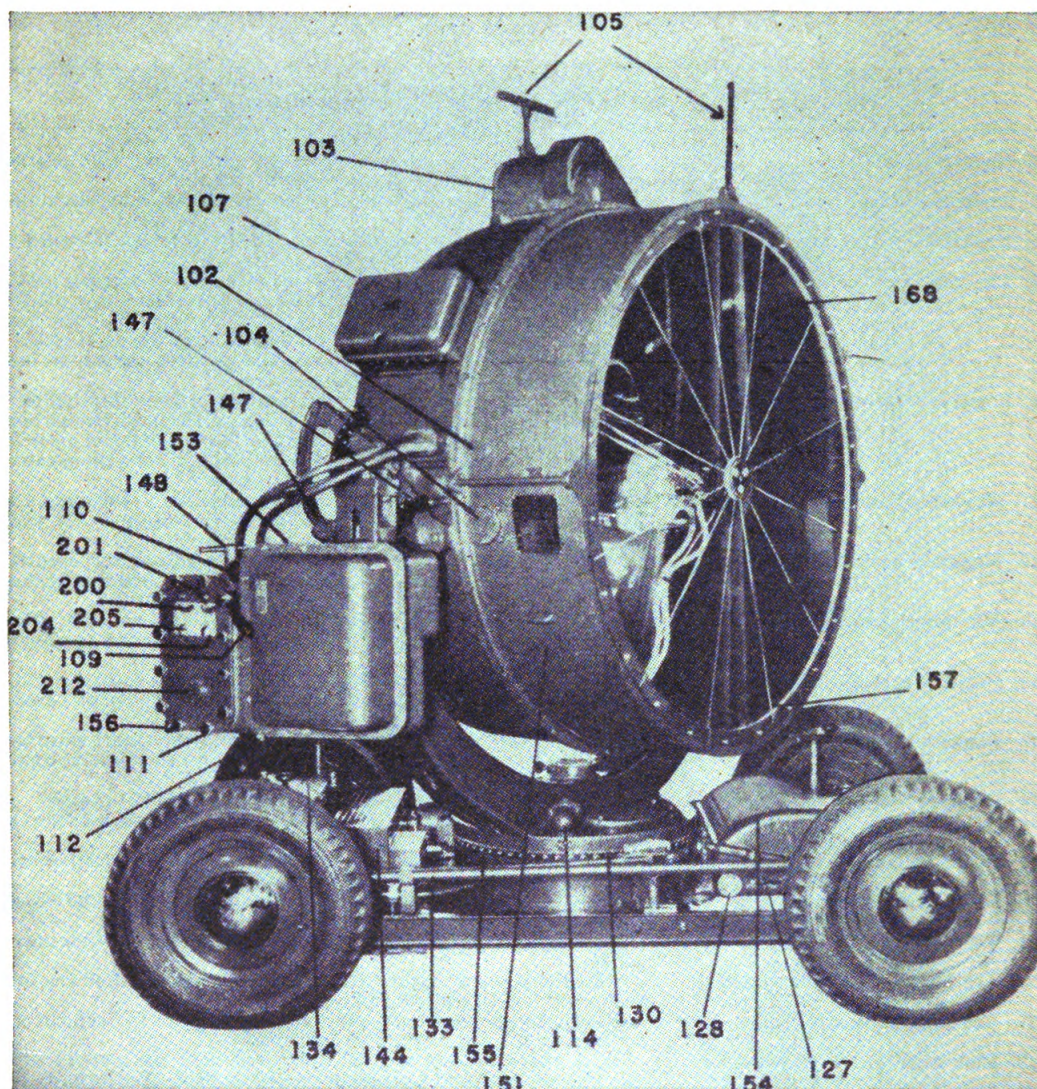

FIGURE 86.—General Electric M1940 searchlight (front quarter view).
c. *General Electric searchlight M1940.*—Q. Point out the various parts of the General Electric searchlight M1940. A. See figure 86 to 89, inclusive.